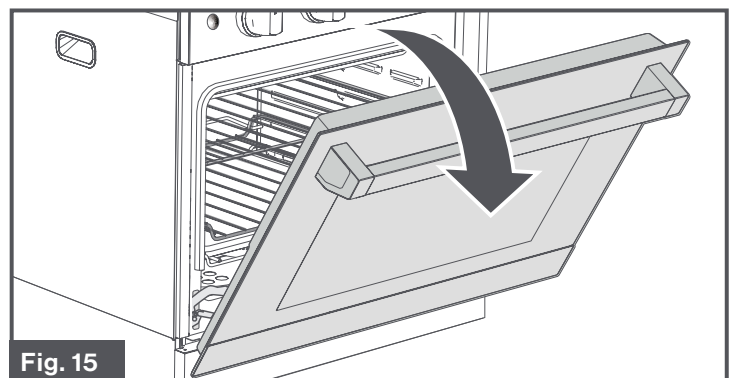

Fig. 15
2. Open the door to its fully open position. (Fig. 15)